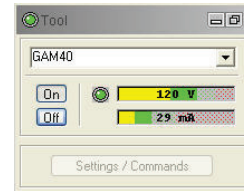

Figure 4-1 Tool panel
2. Select the relevant QL40 GAM tool from the drop down list (Figure 4-1) in the software's **Tool** panel (if your tool is not listed check that your tool configurations file is stored in the designated folder on your computer).
4. On the **Tool** panel (Figure 4-1) click the **Settings / Commands** button to configure your tool (see chapter 4.5 for details).